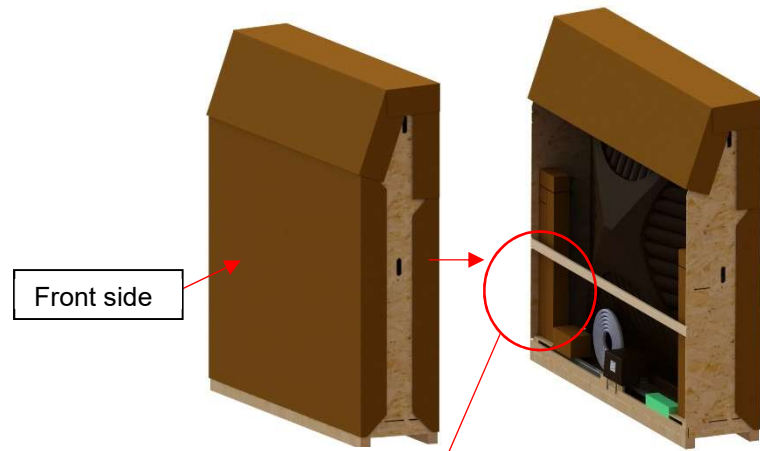

Figure 32
- 1) Before uncrating the unit, ensure there is no visible damage to the crate. In case of any suspicious damage, take pictures first and please call COVANA customer service immediately. Always stand the crate in the vertical position. Ensure that the uncrating can be done safely given the wind conditions. (Figure 32)
- 2) Remove the cardboard on the front side. (Figure 32)